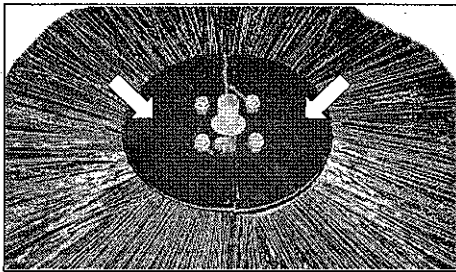

figure 35
6. Remove retainer plate halves (figure 35) from 1 end of the brush.